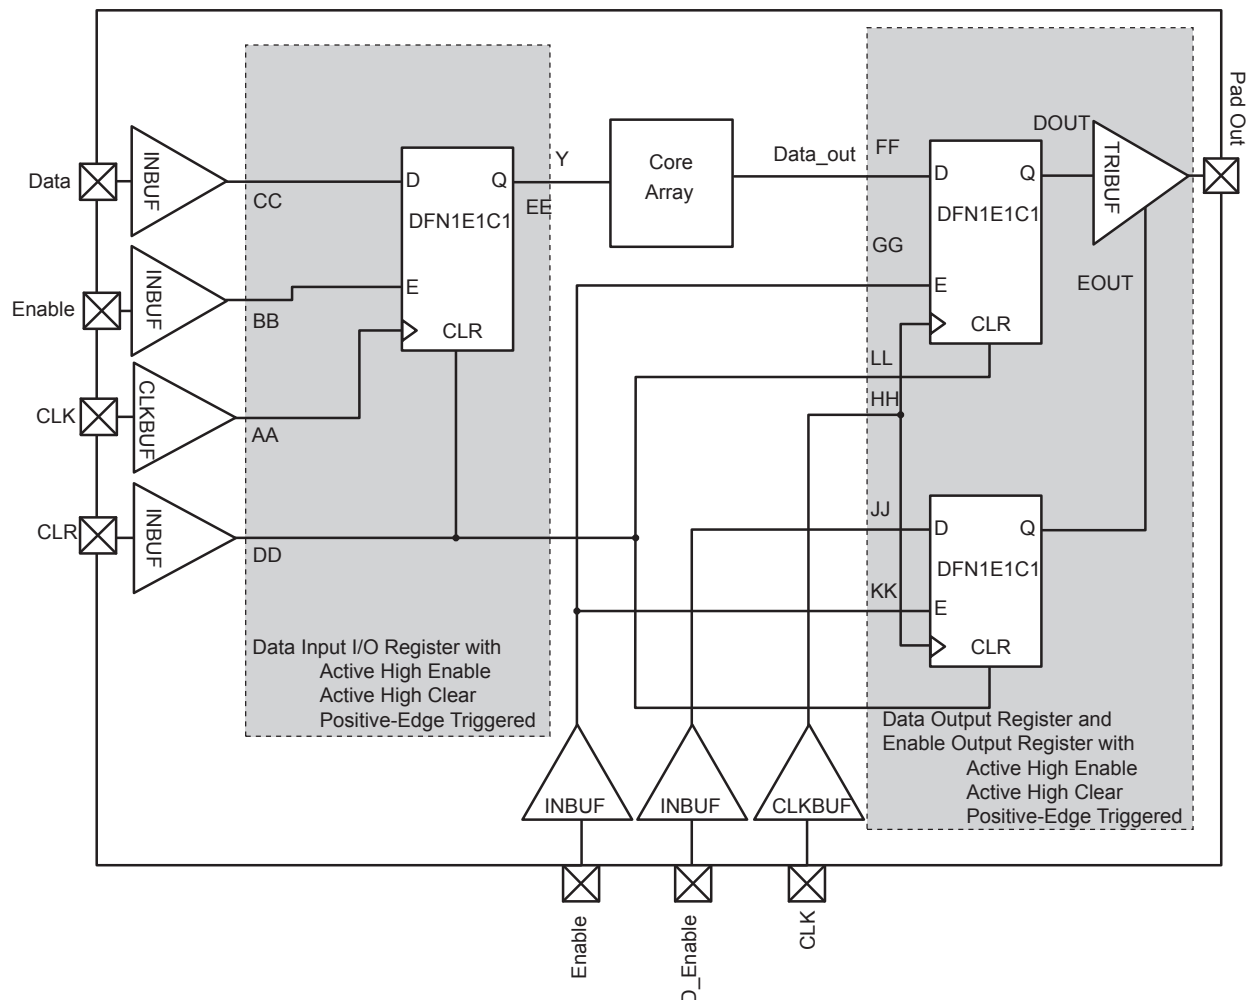

Figure 2-16 • Timing Model of the Registered I/O Buffers with Synchronous Enable and Asynchronous Clear
* See Figure 2-16 on page 2-47 for more information.